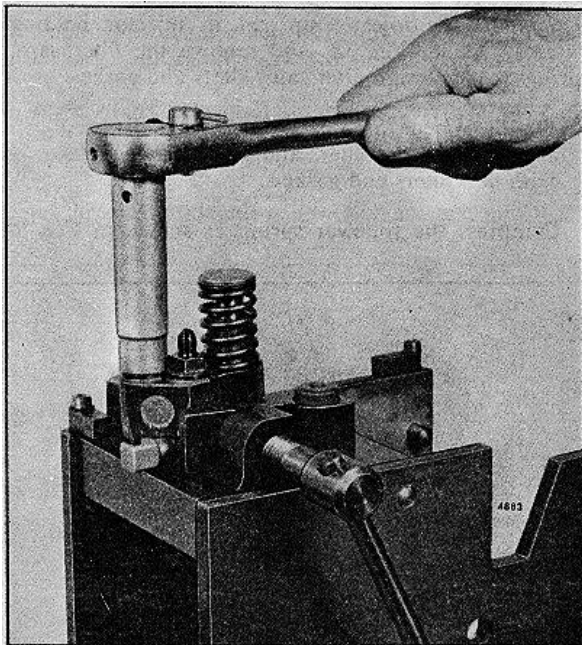

FIG. 18. Removing or Installing Filter Cap
1. Support the injector upright in injector holding fixture J 22396 (Fig. 18) and remove the filter caps, springs (early design filter cap), filters and gaskets.